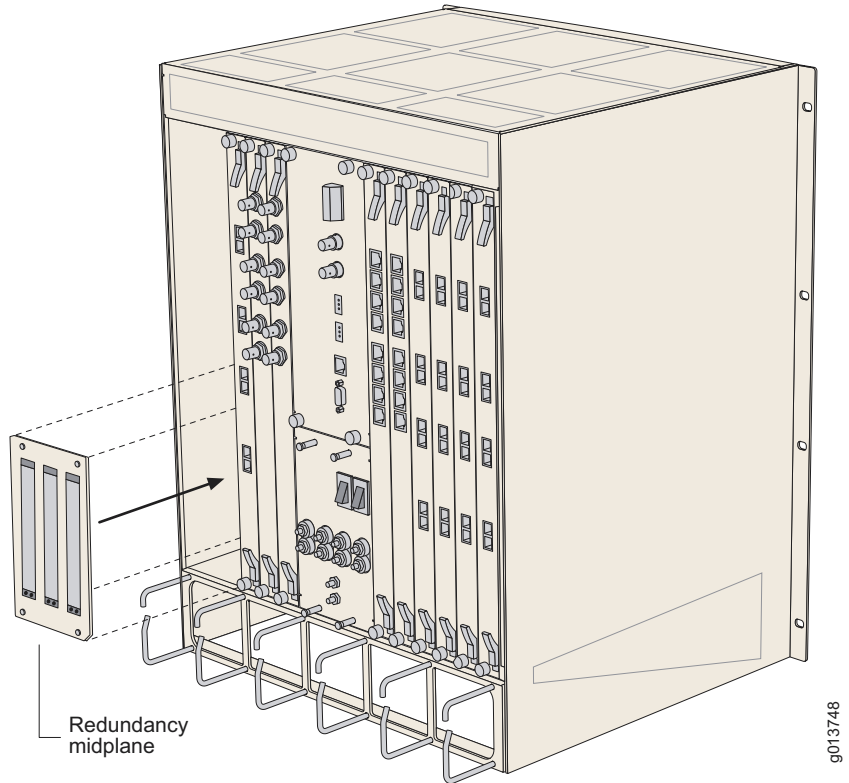

Figure 5-7 Installing a redundancy midplane
- 2** Turn off the power switches located on the power input module in the rear of the system (see Figure 5-7).
- 4** Place the redundancy midplane in the chassis so that it rests against the guides below the chassis midplane (see Figure 5-7).